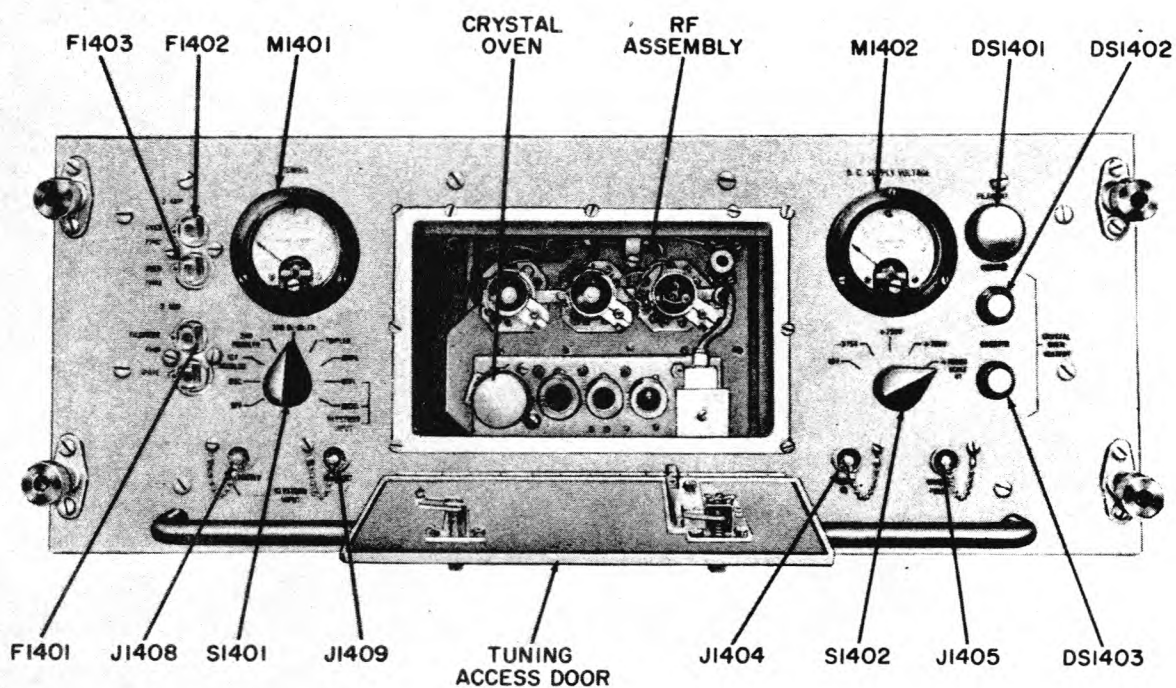

Figure 3-3. Frequency Multiplier-Oscillator CV-1171/GRN-9D, Front Panel View
(4) **TRANSMITTER.**—The radio transmitter includes the frequency multiplier-oscillator (figure 3-3), the amplifier-modulator (figure 3-4), and the duplexer in the control-duplexer (figure 3-5), and produces shaped r-f pulses spaced at proper time intervals, which are radiated from the antenna. It is capable of transmitting on any one of 126 channels in the frequency ranges of 962 to 1024 mc and 1151 to 1213 mc. The primary function of the duplexer is to permit simultaneous reception and transmission over a common antenna without interference. The receiver and transmitter carrier frequencies are always 63 mc apart.
(c) Frequency Multiplier-Oscillator CV-1171/GRN-9D (figure 3-3).
FREQUENCY MULTIPLIER-OSCILLATOR CV-1171/GRN-9D (figure 3-3)